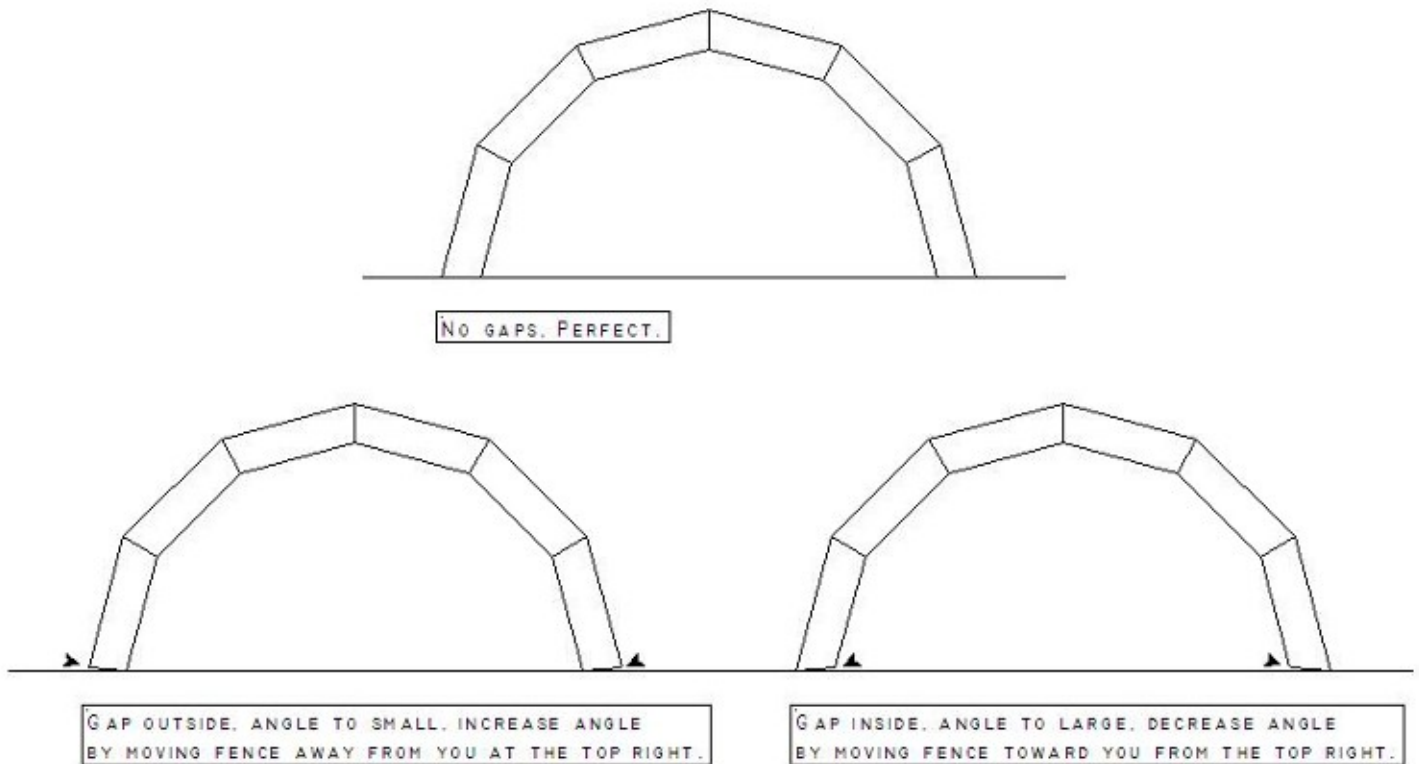

Figure 4 Error correction.
17. To "dial in" the fence, cut 8 segments of equal length. Tape or glue the segments together to make a half ring. Rest the ring on the top of the table saw (figure 4).